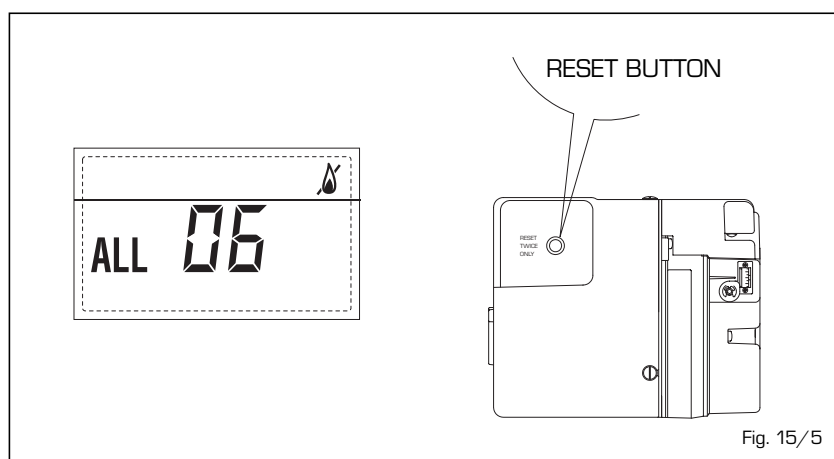

Fig. 15/5
– **SAFETY THERMOSTAT ANOMALY (fig. 15/6)**